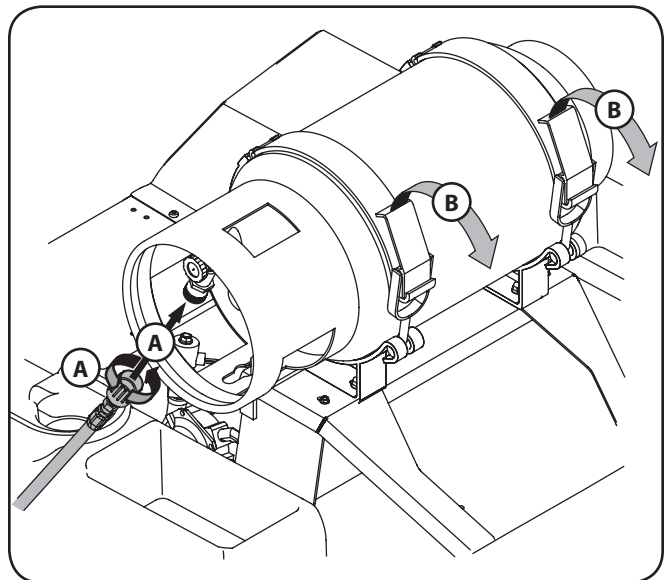

Figure 6-2
3. Remove the regulator hose from the LPG tank by twisting it clockwise (A). See Fig. 6-2.
4. Release the two (2) straps that secure the cylinder to the machine (B). See Fig. 6-2.